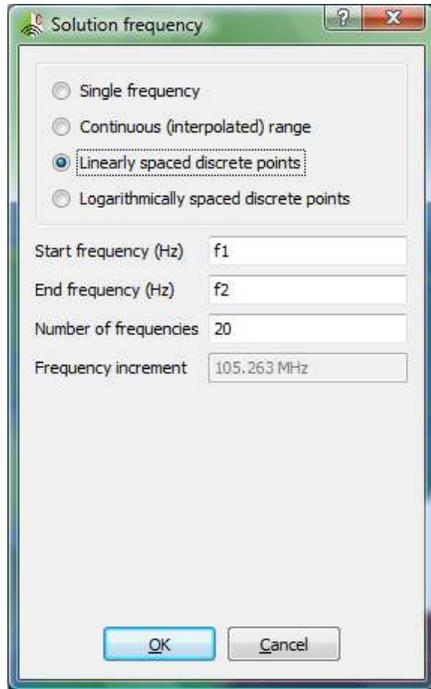

Figure 16.
19. Observe the created port in the geometry. After port creation, we need to specify the frequency of simulation. We will first examine the resonance of the antenna, and thus we are interested in an $|S_{11}|$ measurement. We need to sweep the frequency between F1 and F2 as shown in Figure 16.